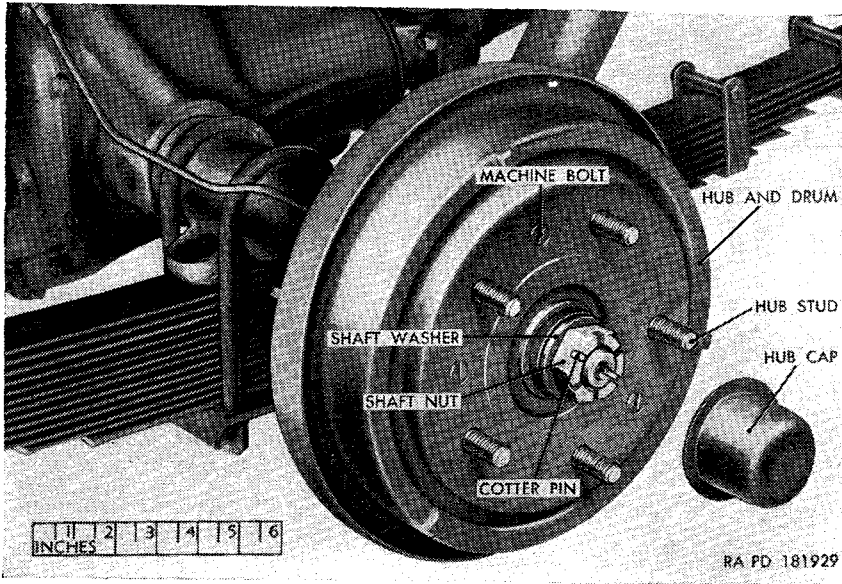
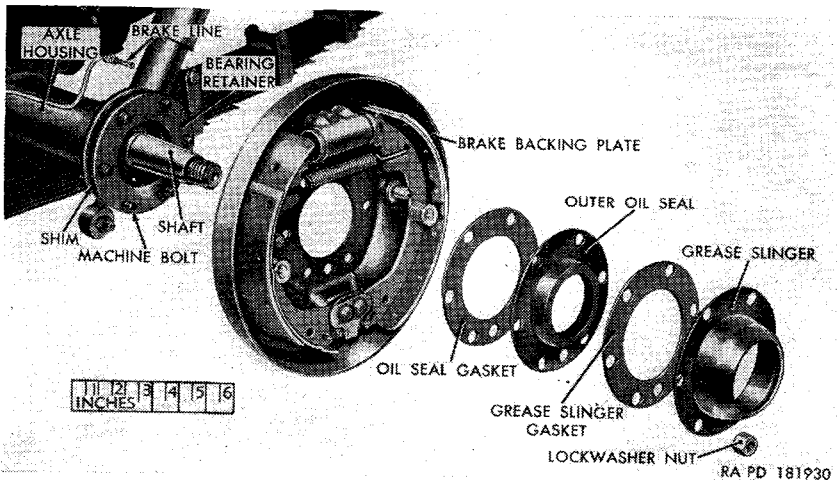
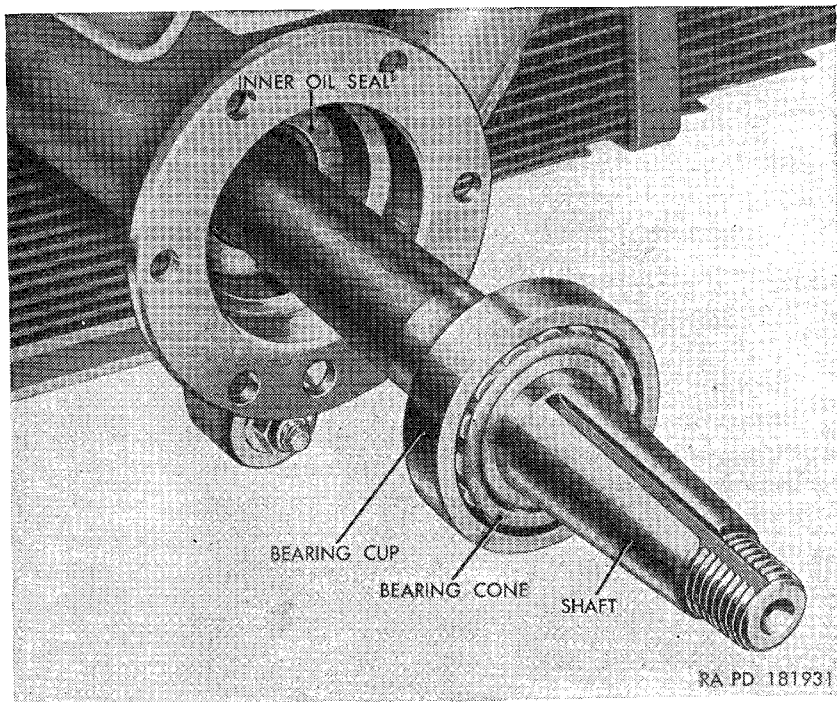

Figure 146. Rear axle with brake, hub, and drum assemblies—hub cap removed.
Figure 147. Rear axle and brake backing plate with brake shoe assemblies—partially exploded view.
Figure 148. Rear axle shaft with bearing assembly—partially withdrawn from housing.
- (1) Remove the wheel (par. 250*a*).
- (2) Pry off the hub cap and remove the cotter pin, shaft nut, and shaft washer (fig. 146).
- (3) Using a suitable puller, pull the hub, drum, and key from the shaft.
- (4) Unscrew the nut securing the brake line (fig. 147) to the brake wheel cylinder and pull the line free.
- (5) Remove the six lockwasher nuts from the bolts in the housing flange. Remove the grease slinger, grease slinger gasket, outer oil seal, and oil seal gasket (fig. 147).
- (6) Pull the backing plate with brake shoe assemblies from the axle housing.
- (7) Remove the bearing retainer and shims from the bolts in the housing flange, and remove the bolts.
- (8) Using a suitable puller, pull the shaft with bearing cup and cone from the axle housing (fig. 148). Pry the inner oil seal out of the housing. Discard oil seal.
- (9) Pull the cup off the cone with a suitable remover. Remove the cone from the shaft.
- (5) Position the shims and bearing retainer (fig. 147) over the shaft, aligning the retainer and shim drain holes with the housing drain hole. Insert three $\frac{3}{8}$ x $1\frac{1}{4}$ bolts through alternate holes in the housing, shims, and retainer.
- (6) Position the backing plate with brake shoe assemblies against the bearing retainer with the plate drain hole aligned with the bearing retainer and housing drain hole.
- (7) Position the oil seal gasket, the outer oil seal, the grease slinger gasket, and the grease slinger on the backing plate, with the drain hole in each aligned with the drain hole in the plate. Insert the remaining three $\frac{3}{8}$ x $1\frac{1}{4}$ bolts through
- (8) Connect the brake line to the brake wheel cylinder,
- (9) Place the hub and drum (fig. 146) on the shaft, with the hub keyway alined with the shaft keyway. Insert the key into the keyway and tap the key and hub and drum into position on the shaft.
- (10) Place the shaft washer on the shaft, screw the shaft nut on the end of the shaft and secure the nut with a $\frac{1}{8}$ x $1\frac{1}{2}$ cotter pin.
- (11) Install the wheel (par. 250*b*), and lower the vehicle to the ground. Bleed the brakes (par. 237).